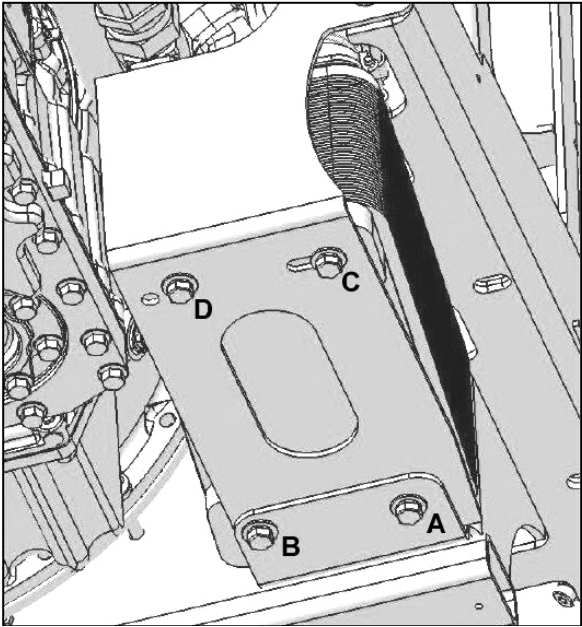

FIGURE 17: NORMAL OIL COOLER POSITION
2. Remove bolts B and D. Untighten bolts A and C then pivot oil cooler as per Figure 17. Install bolts B and D and tighten all bolts.